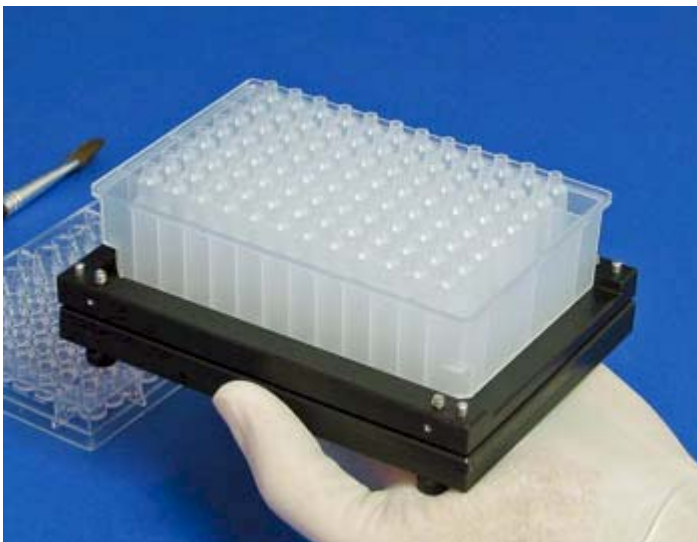

Figure 3.
7. Once the VP 725ZB-3 is loaded with Arabidopsis seeds place a Nunc 1 ml filter plate without frit (part Number 278012) but with nutrient agar (See: Patrick Krysan, (2004) Ice-Cap. A High-Throughput Method for Capturing Plant Tissue Samples for Genotype Analysis. Plant Physiology, July 2004, Vol 135, pp. 1162-1169). See Figure 3.